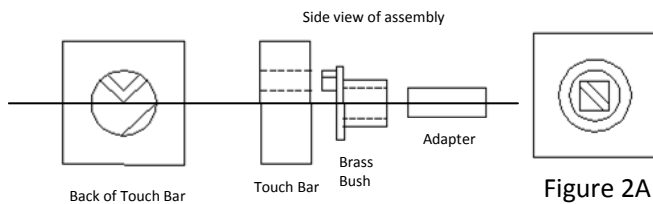

Figure 2
- **FOR RIGHT HANDED** installation the Brass Bush must be located in the Touch Bar as seen in Figure 2 and the Adapter should be located within the Brass Bush as shown in Figure 2A.